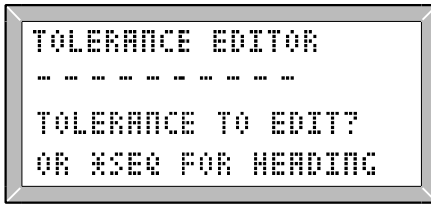

Fig. 5.7 Tolerance editor
- Hold **ON/OFF** and press **1** to obtain the tolerance editor (fig 5.7)